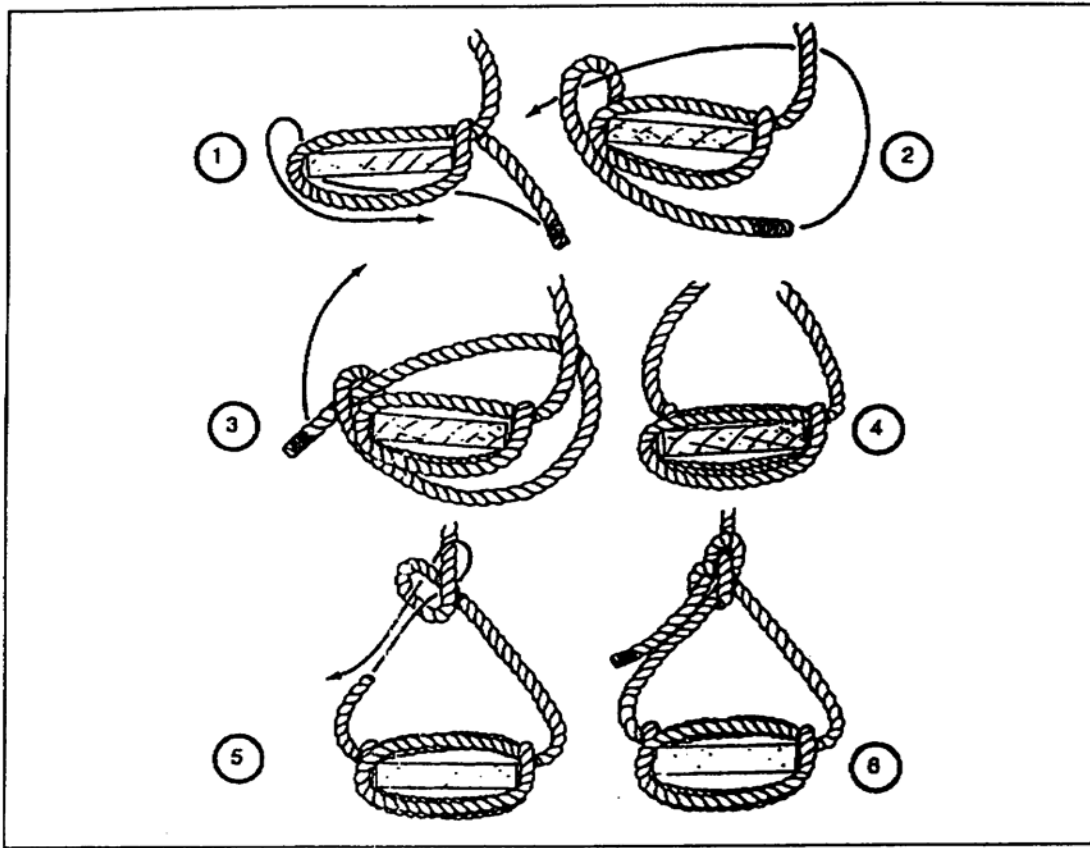

Figure 4-31. Scaffold hitch
j. Scaffold Hitch. A scaffold hitch (Figure 4-31) is used to support the end of a scaffold planking with a single rope. The hitch prevents the planking from tilting.